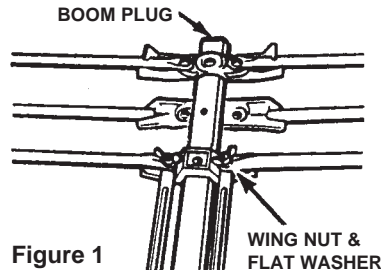

Figure 1
**STEP 2.** Connect loose elements to stud rivets. Use flat washers and wing nuts from hardware bag to secure loose elements. See Figure 1.
**STEP 3.** Insert boom plugs into top and bottom of mast. See Figure 1.